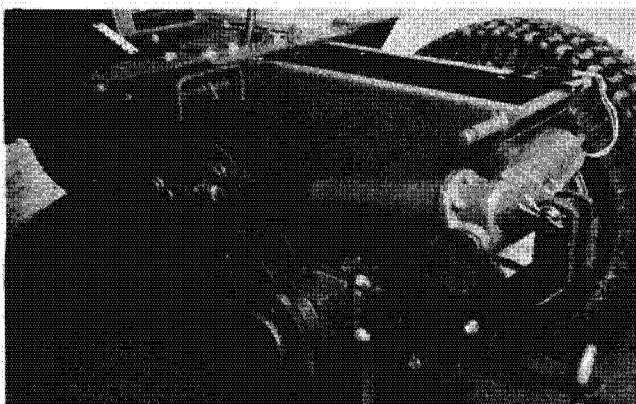
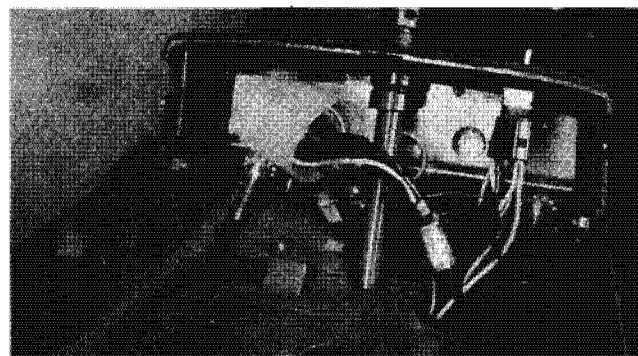
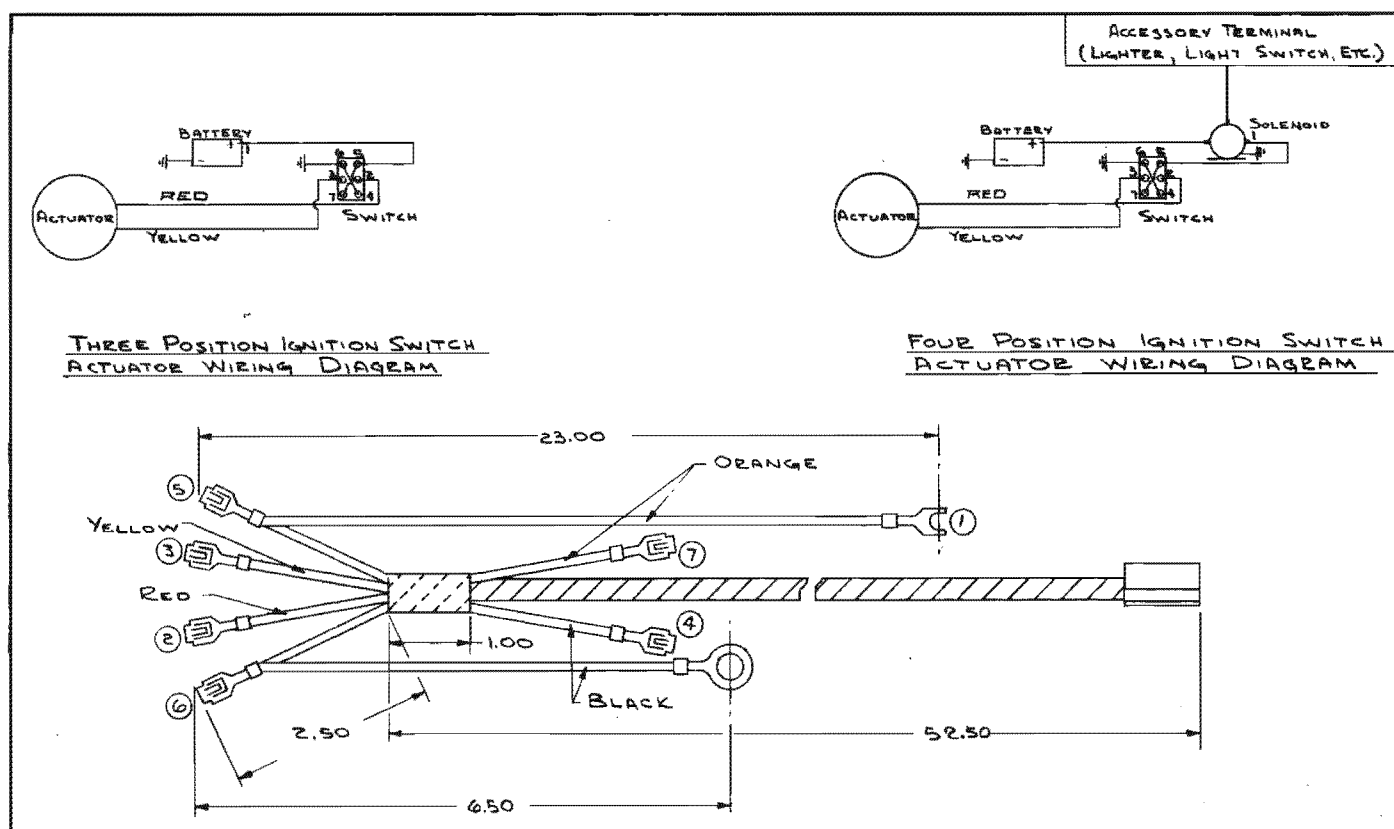

FIGURE 5
FIGURE 7
FIGURE 8
the rear frame arms and insert the rear anchor pin (15) through the holes in the arms and actuator. Secure it with two $\frac{1}{2}$ " washers and cotters (figure 5).
11. Place the wiring harness (9) on the fuel tank support and push the end of the long harness wire down through the rubber grommet as shown in figure 7. Pull the wire behind the steering shaft and down the right side of the hoodstand. Loosen the dust cover bolts enough to allow the wire to come up between the back edge of the dust cover and the front of the tool box. From there, run the wire along the top right flange of the tool box to the rear of the tractor and plug the two-wire connector into the mating connector at the actuator. Secure the wire with two wire clips along the tool box flange as shown in figure 5, and one each on the right frame rail and the right flange of the hoodstand.
12. Using the color coded wiring diagram (figure 8) to identify numbered harness leads and corresponding switch terminals, connect leads 2, 3, 4, 5, 6 & 7 (figure 8) to the actuator switch (17). The harness ground wire connects to the bolt at the left side of the fuel tank support as shown in figure 7. Clean paint off to expose bare metal at this point to assure a good electrical connection.
Pass the orange harness wire (#1, figure 8) through the fuel tank support grommet and connect it to the bottom solenoid post. If no solenoid is being used, connect the wire to the positive (+) terminal of the tractor battery.